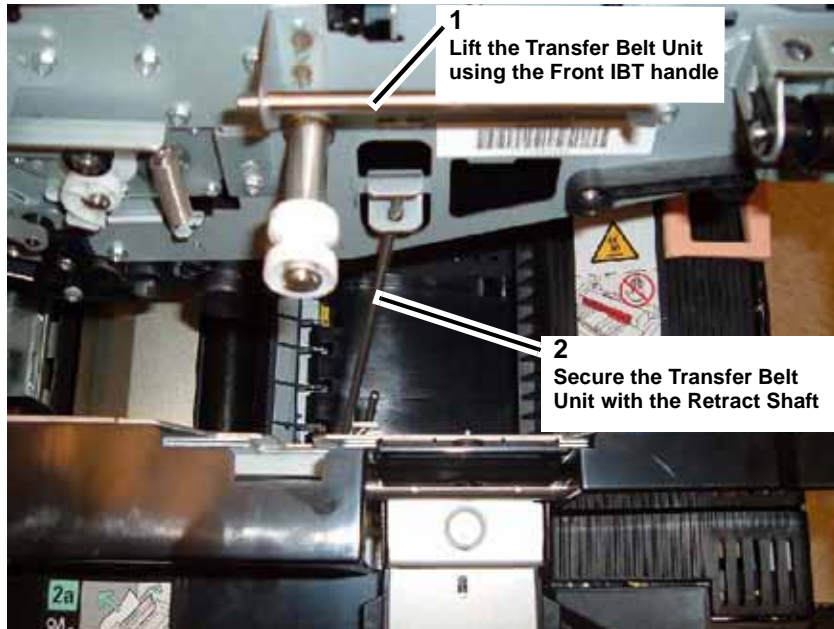

Figure 1 Securing Transfer Belt Unit with the Retract Shaft
2. Lift and secure the Transfer Belt Unit using the Retract Shaft (Figure 1).